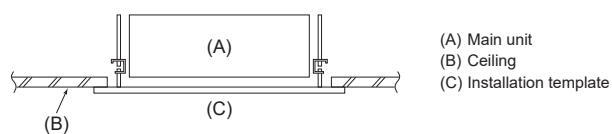

Fig. 3-7
3.7. Confirming the position of main unit and tightening the suspension bolts (Fig. 3-7)